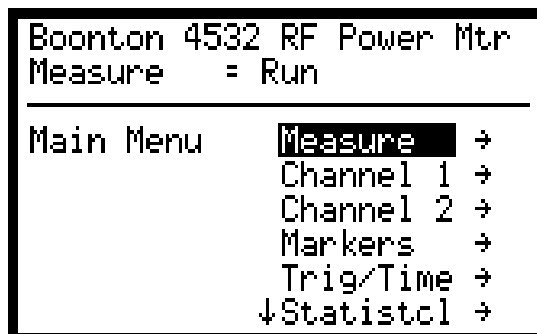

Figure 3-9. Main Menu Screen
- 3.5.1 **Entry.** When the **Menu** key is pressed, the instrument enters Menu Mode (See Figure 3-9). The first time the **Menu** key is pressed after power-up, the instrument will always enter Menu Mode displaying the Main Menu. Subsequent entries into Menu Mode will return the user to the same position in the menu tree that was last used.